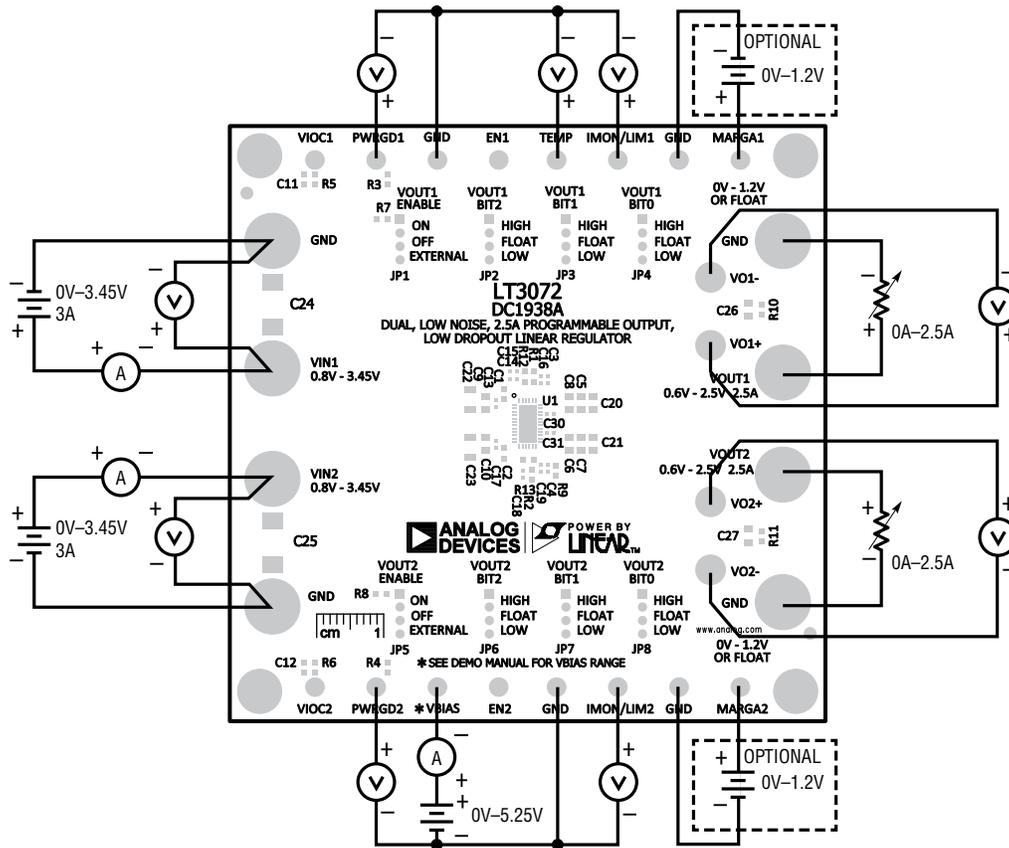

Figure 1. Proper Equipment Setup for DC1938A.
To use DC1938A to evaluate the performance of the LT3072, refer to Figure 1 for the proper equipment setup and follow the procedure below:
1. With the input supplies and loads off and turned down, make all connections according to Figure 1. Make sure the jumpers to set V_{OUT1} and V_{OUT2} are in the proper positions for the desired output voltage according to Table 1 of the LT3072 data sheet. Make sure the V_{OUT1} ENABLE and V_{OUT2} ENABLE jumpers are in the ON position.